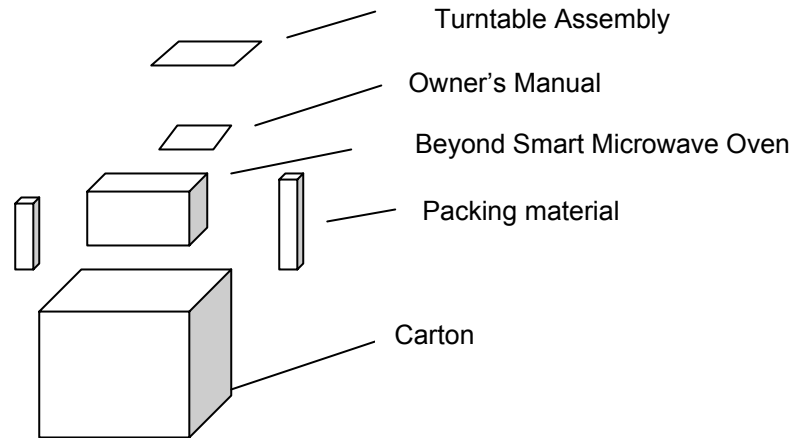

Figure 1. [View of oven and all contents “exploding” out of shipping/shelf container.]
2. Verify that you have all the items shown in Figure 1 and that all items are in good condition. Check the oven for any damage, such as a misaligned or bent door, damaged door seals and sealing surfaces, broken or loose door hinges and latches, or dents on the door or interior walls.